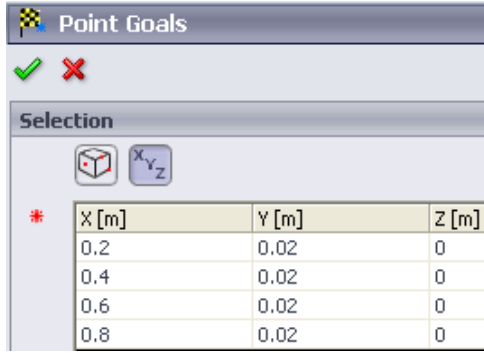

Figure 2.21e) Coordinates for point goals
21. Right click on **Goals** in the **COSMOSFloWorks analysis tree** and select **Insert Global Goals...** Select **X – Component of Shear Force** as a global goal. Exit the **Global Goals** window. Right click on **Goals** in the **COSMOSFloWorks analysis tree** and select **Insert Point Goals...** Click on the  **Point Coordinates** button. Enter **0.2 m** for X coordinate and **0.02 m** for Y coordinate and click on the **Add Point** button . Add three more points with the coordinates shown in figure 2.21e). Check the **Value** box for **X-Component of Velocity**. Exit the **Point Goals** window. Rename the point goals as shown in figure 2.21g). Right click on **Goals** in the **COSMOSFloWorks analysis tree** and select **Insert Equation Goal...** Click on the **X-Component of Velocity at x = 0.2 m** goal in the **COSMOSFloWorks analysis tree**, multiply by 0.2 and divide by the kinematic viscosity of air at room temperature (1.516E-5) to get an expression for the Reynolds number in the **Equation Goal** window, see figure 2.21h). Select **No units** from the dimensionality drop down menu. Rename the equation goal to **Reynolds number at x = 0.2 m**. Insert three more equation goals corresponding to the Reynolds numbers at the three other X locations. For a definition of the Reynolds number, see page 2-19.